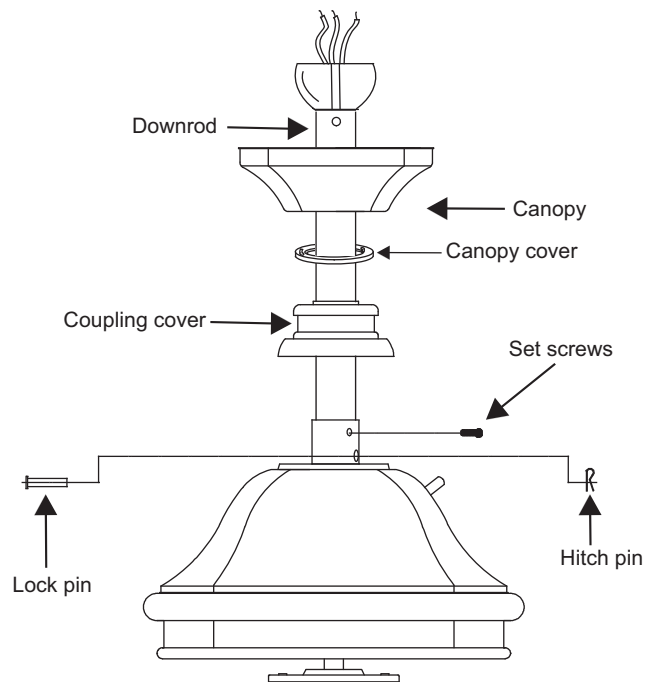

Figure 7
Step 6. Route wires exiting from the top of the fan motor through the collar cover, canopy cover, canopy and then through the ball / downrod. (Fig. 7)
Step 7. Align the holes at the bottom of the downrod with the holes in the collar on top of the motor housing (Fig. 7). Carefully insert the hanger pin through the holes in the collar and downrod. Be careful not to jam the pin against the wiring inside the downrod. Insert the locking pin through the hole near the end of the hanger pin until it snaps into its locked position, as noted in the circle inset of Fig. 7.
Step 8. Tighten two set screws on top of the fan motor firmly. (Fig. 7)